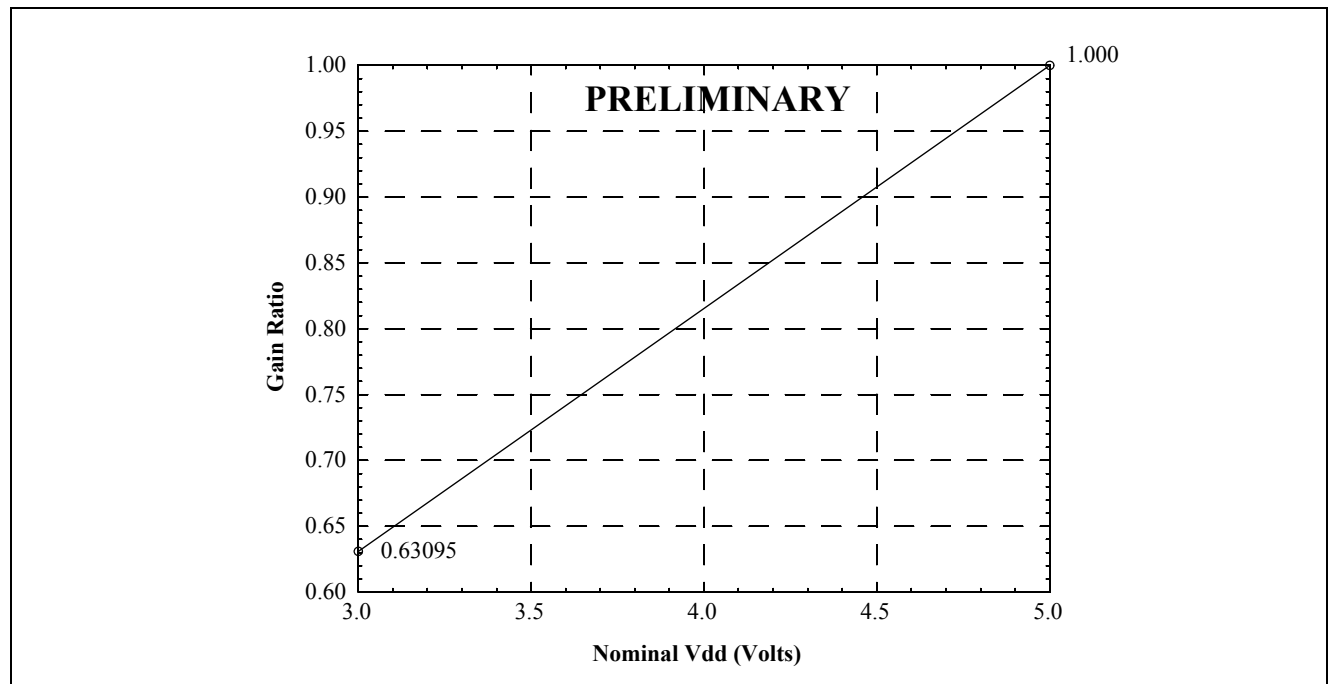

Figure 9 - GS1 and GS2 Gain Ratios as a Function of Nominal Vdd
The MT88E46 is designed to operate from a fixed voltage power supply between 3 and 5 V nominal. A $\pm 10\%$ variation from the nominal voltage is allowed. Its FSK and CAS reject levels are proportional to Vdd. When operated at Vdd equals 3 V $\pm 10\%$, to keep the FSK and CAS reject levels as at 5 V $\pm 10\%$, and for optimal speech immunity, the GS1 and GS2 op-amp gains should be reduced from those of 5V. Gains for nominal Vdd's between 3 and 5 V can be obtained by interpolation between the 3 V and 5 V values shown in Figure 9.
- For the desired nominal Vdd, use Figure 9 to calculate approximate A_v .